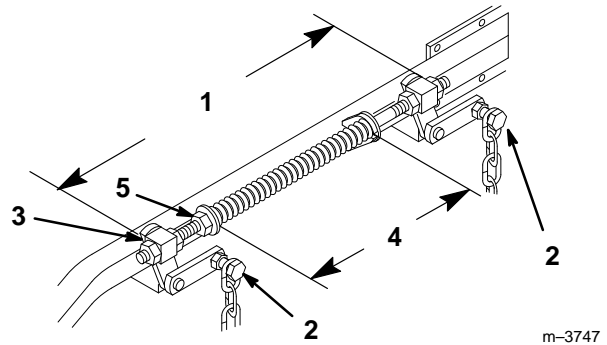

Figure 43
2. Check tire pressure of all four (4) tires. If needed, adjust to 13 psi (90 kPa)
4. Raise the deck to the transport position and take all force off of the two large deck lift springs by loosening nut in front of each spring (Fig. 43).
6. Loosen four (4) top chain bolts in slots. Check the length of the rod/swivel assemblies. Distance from outside of rear swivel to outside of front swivel should be 20-1/4" (514 mm) (Fig. 43). Make sure that all four swivels move freely in holes.
8. Lift up on four (4) top chain attachment bolts, in the slots, to take slack out of chains and tighten flange lock nuts. (Deck is still supported by two rear and one front blocks under mower)
2. Springs are compressed so the distance between the two large washers should be 10-1/2" (267 mm) (Fig. 43).
3. Adjust by turning nut in front of each spring (Fig. 43). (clockwise will shorten spring, counter-clockwise will lengthen spring)